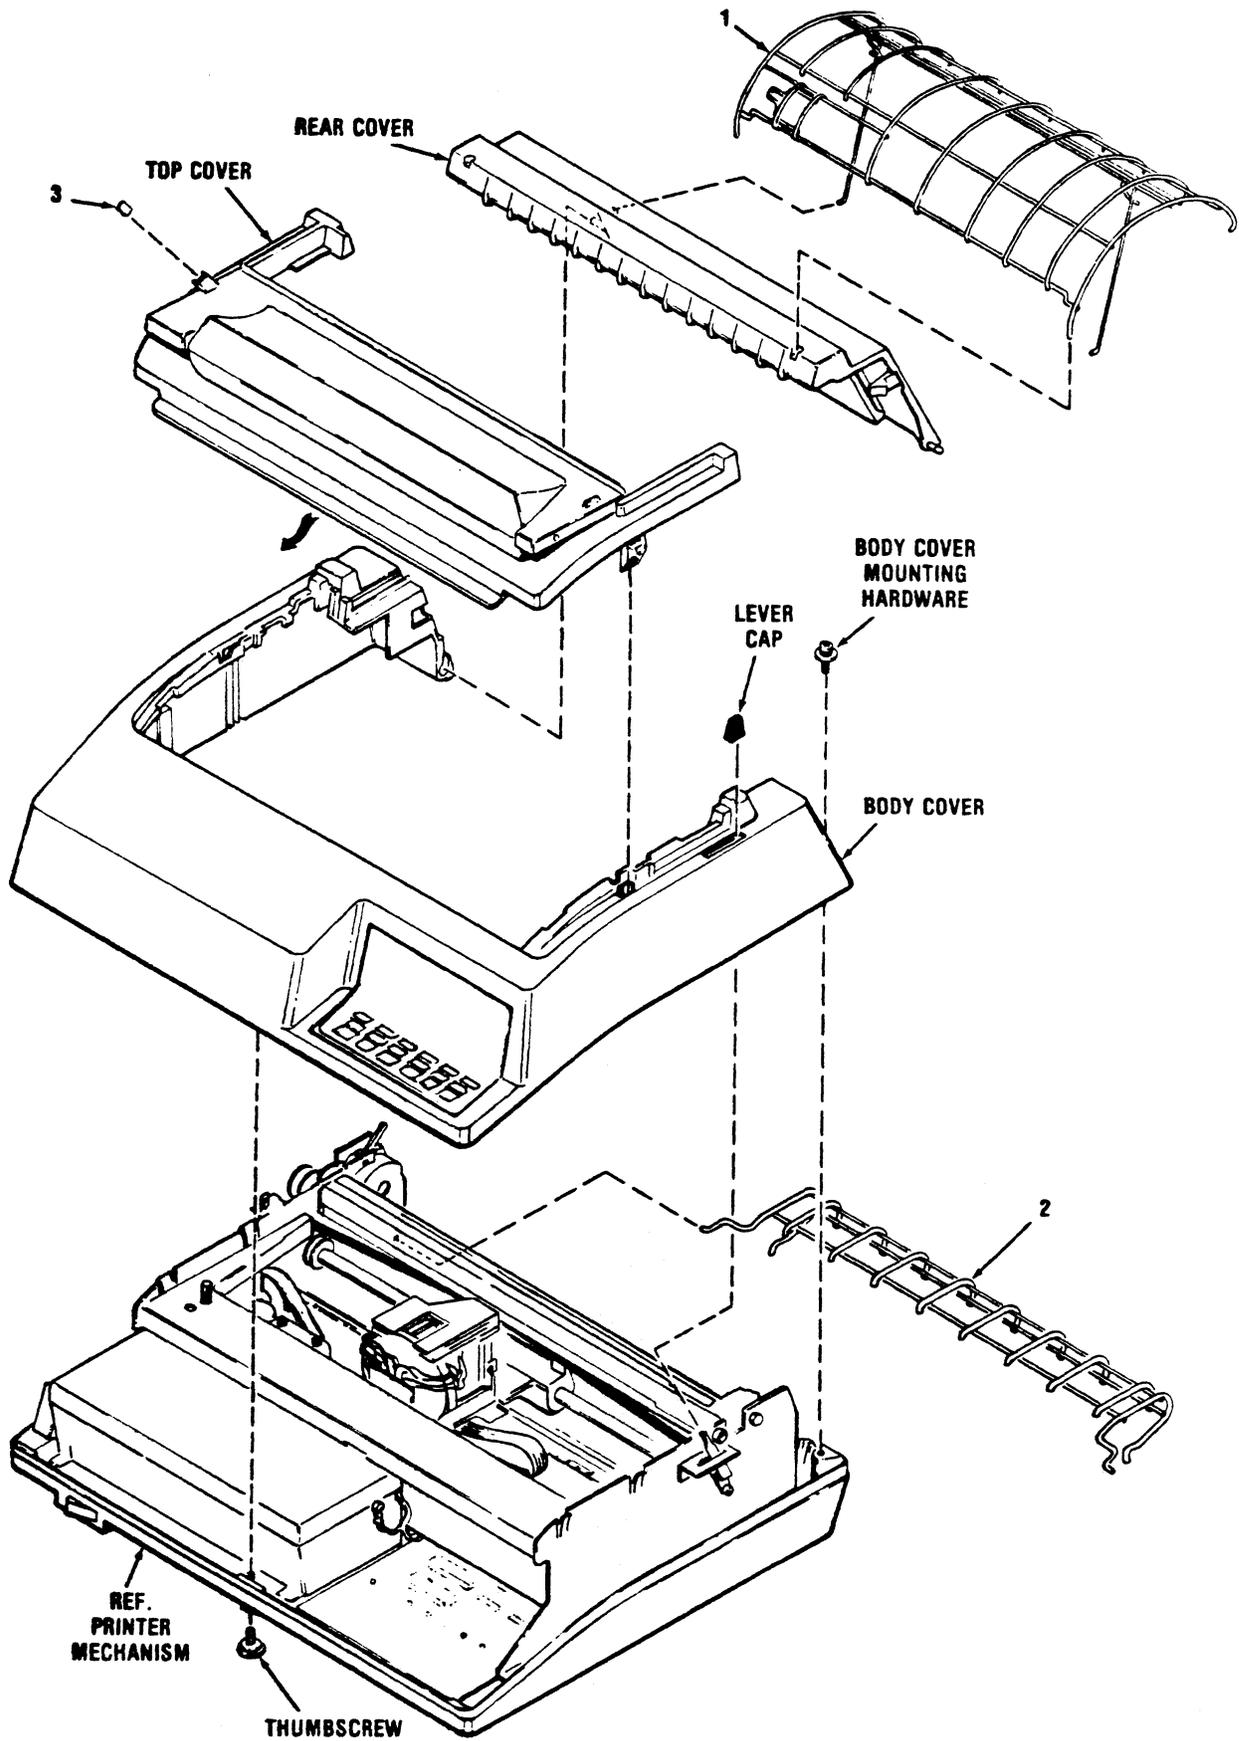

Figure 5-1. REMOVAL/REPLACEMENT PAPER RACK OUTLET ASSEMBLY, PAPER RACK INLET, COVER ASSEMBLIES AND COVER INTERLOCK MAGNET
The paper rack outlet assembly, item 1 of Figure 5-1, attaches to the rear cover and guides the printed forms over the printer and into the paper basket. To remove the paper rack outlet assembly, refer to Figure 5-1 and perform the following steps:
2. Lift the paper rack (1) from the two mounting holes on top of the rear cover and remove the paper rack from the printer.
The paper rack inlet, item 2 of Figure 5-1, attaches to the rear of the printer and guides the forms into the paper feed mechanism. To remove the paper rack inlet, refer to Figure 5-1 and perform the following steps.
2. Pull the paper rack inlet (2) straight out and remove the rack from the printer.
The covers protect the print mechanism and the printed circuit boards and are removed using a Phillips head screwdriver. To remove the covers, refer to Figure 5-1 and perform the following steps:
The cover interlock magnet, item 3 of Figure 5-1, is located underneath the left side of the top cover. To replace the magnet, refer to Figure 5-1 and perform the following steps:
2. Place a small amount of adhesive onto one side of the magnet (3) to be installed.